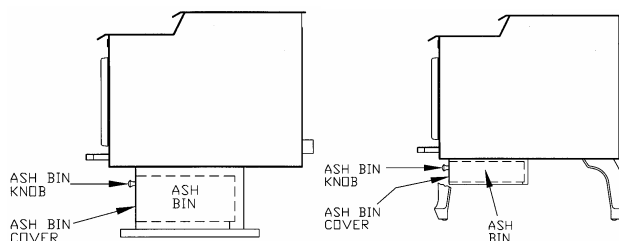

FIGURE 27
- Periodically remove and empty ash bin (see Figure 27) by pulling on handle below ash lip. Dispose of ashes properly. (See **"ASH REMOVAL"** above)